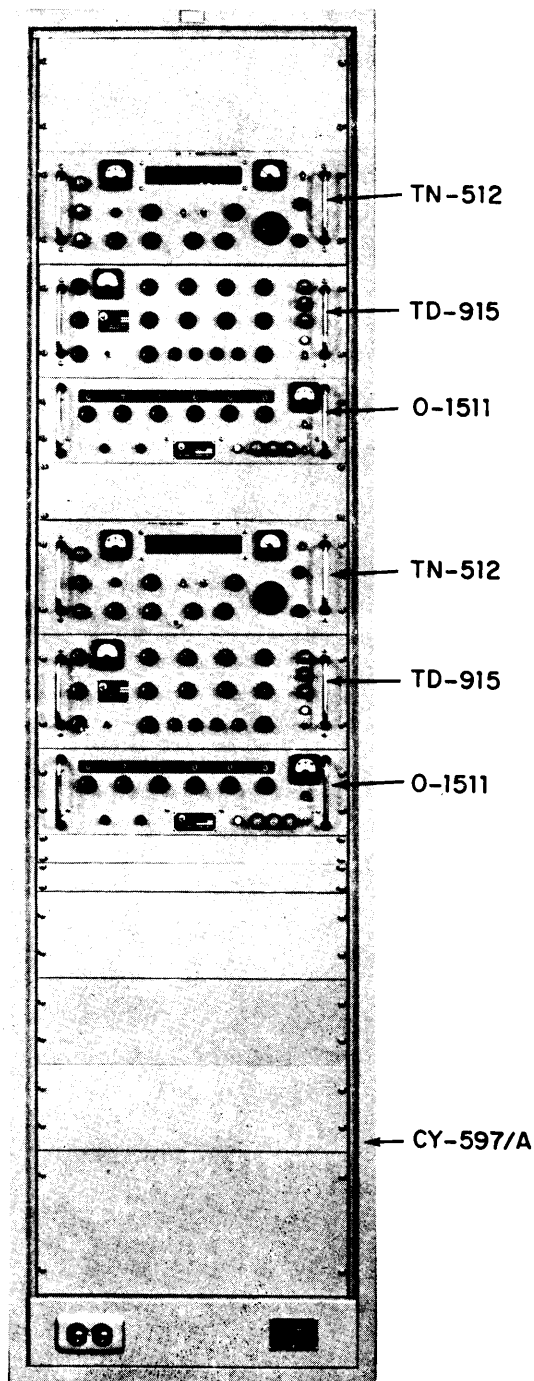

Figure 1-1. Radio Receiving Set AN/URR-64(V)1
1-2. GENERAL DESCRIPTION (see figures 1-1, 1-2, and 1-3).
a. GENERAL. - Each Receiving Set is comprised of modular units and interconnecting cabling, mounted in a single cabinet as shown in figures 1-1, 1-2 and 1-3. All unit circuitry is solid state design, with printed circuit plug-in boards throughout. All units are on tilt-lock slides and lock in the up or down position for servicing; each unit contains its own power supply and includes forced air cooling